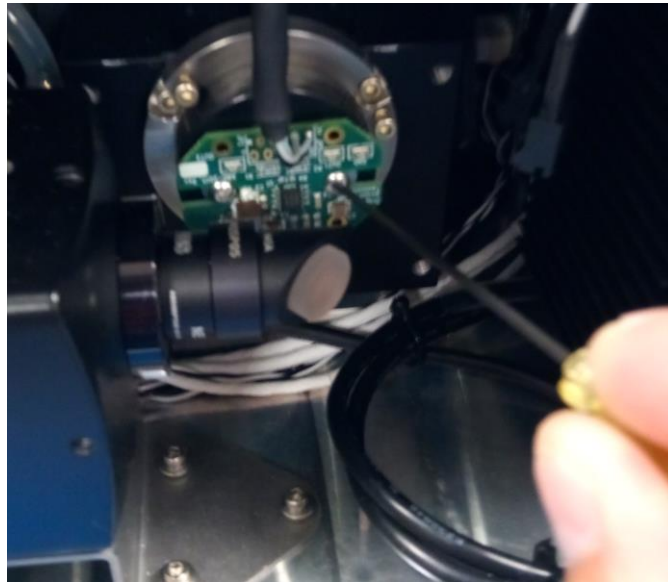

Figure 28: Laser power board removal
4. With a 1/16" hex driver, remove one of the screws from the laser power monitor. The second screw only needs to be loosened, not fully removed (Figure 28).